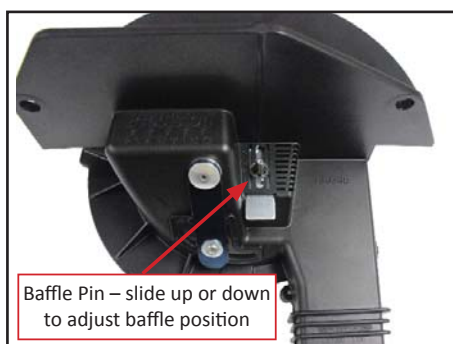

Figure 4
The baffle position may also need to be adjusted, depending on the crop being planted. Table 5 shows the recommended baffle positions for the various crops. To adjust the baffle, slide the pin up or down until it lands in the next detent position (see **Figure 4**).
- Seed bridging is another possible cause of the meter failing to plant. If you detect bridging, consider opening up the baffle to a higher position (see Figure 4 on page 7).